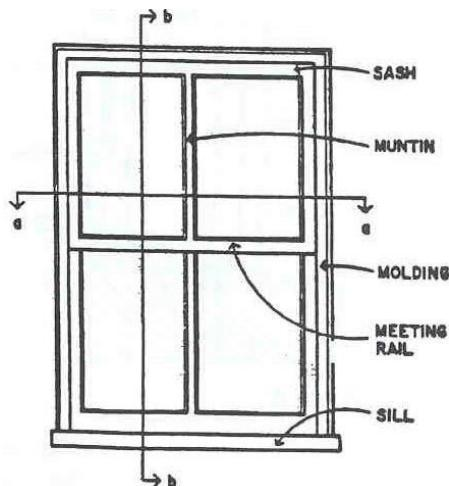

Figure 1
- 3. Drawings or measured photos** illustrating dimensions and profile of components of all types of existing windows, including the head, jamb, sill, and muntins (see figure 1).**